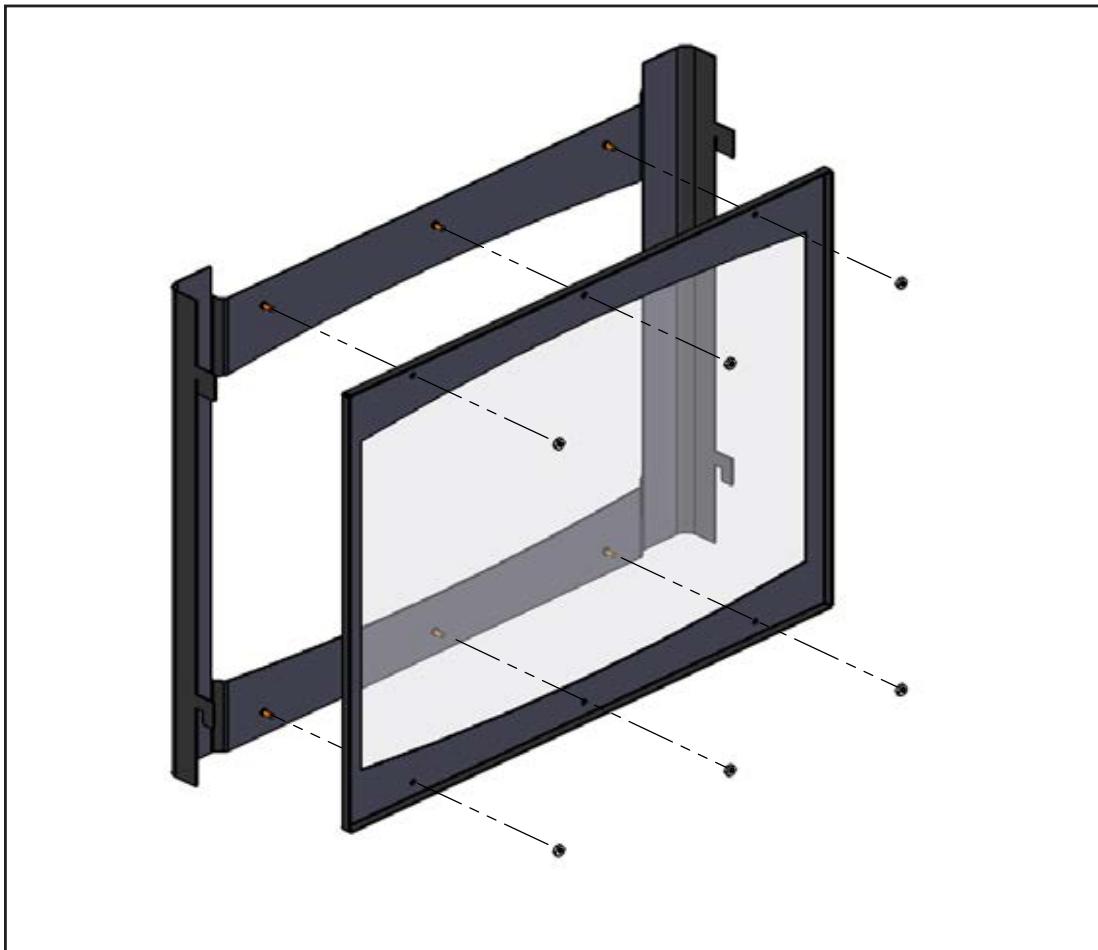

Figure 66: Safety Screen Removal
4. Using a 11/32" wrench, remove the six (6) #8 nuts as shown in figure 66.